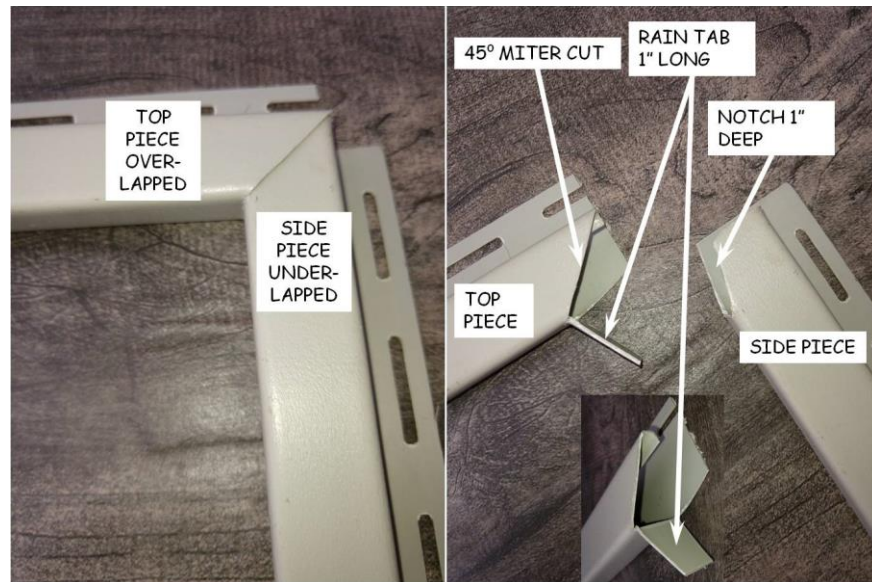

Figure 11-3. J-Channel Upper Corner Detail.
3. For door side pieces, measure from the top of the brickmold to the porch cement, and add 1". Cut J-channel side pieces to that length. Cut a 1" notch in the top end as shown in Figure 11-3. Install the side pieces with the bottom of the notch flush with the top of the brickmold, nailing snugly every fifth slot.
6. Cut a tab on each end of the top piece. Install top piece (nailing snugly every five slots) and fold the tabs down into the vertical pieces (see Figure 11-3) so that water will run off.